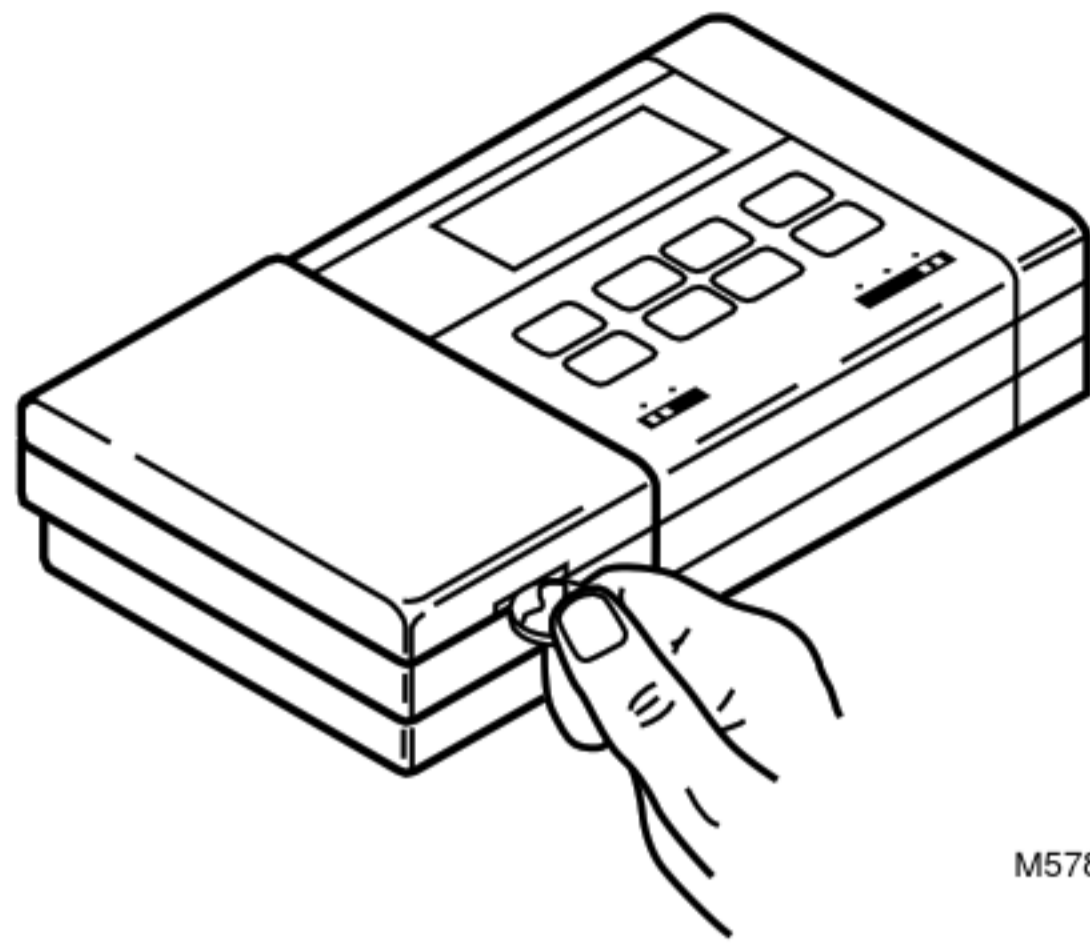

Fig. 10. Removing battery door.
3. Use a coin to remove the battery door (see Fig. 10).